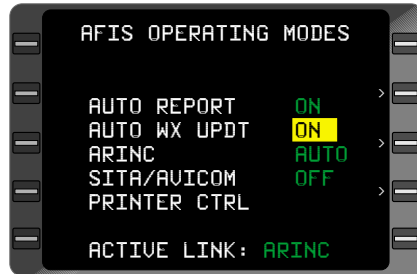

Figure 7-114
4. Line Select Key - DEPRESS to position cursor over **ON** option of **AUTO WX UPDT** field. (Figure 7-114)